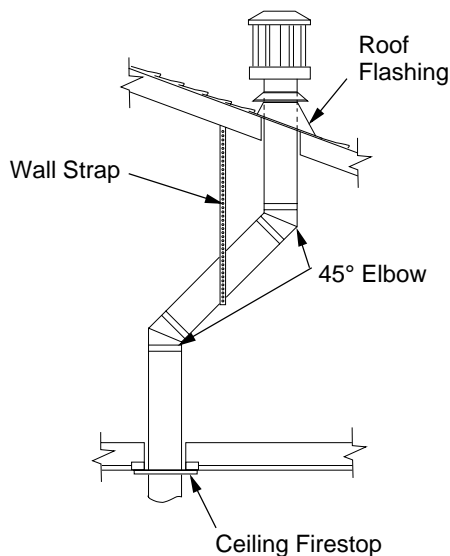

Figure 32 - Offset with Wall Strap and 45° Elbows
1. Determine the route your vertical venting will take. If ceiling joists, roof rafters, or other framing will obstruct the venting system, consider an offset (see Figure 32) to avoid cutting load bearing members. *Note:* Pay special attention to these installation instructions for required clearances (air space) to combustibles when passing through ceilings, walls, roofs, enclosures, attic rafters, etc. Do not pack air spaces with insulation. Also note maximum vertical rise of the venting system and any maximum horizontal offset limitations. Offsets must fall within the parameters shown in Figures 36 through 38, pages 17 and 18.
*Note:* If an offset is needed to avoid obstructions, you must support the vent pipe every 3 feet. Use wall straps for this purpose (see Figure 32). Whenever possible, use 45° elbows instead of 90° elbows. The 45° elbow offers less restriction to the flow of the flue gases and intake air.
5. Place the flashing over the pipe section(s) extending through the roof. Secure the base of the flashing to the roof and framing with roofing nails. Be sure roofing material overlaps the top edge of the flashing as shown in Figure 32. There must be a 1" clearance from the vent pipe to combustible materials.